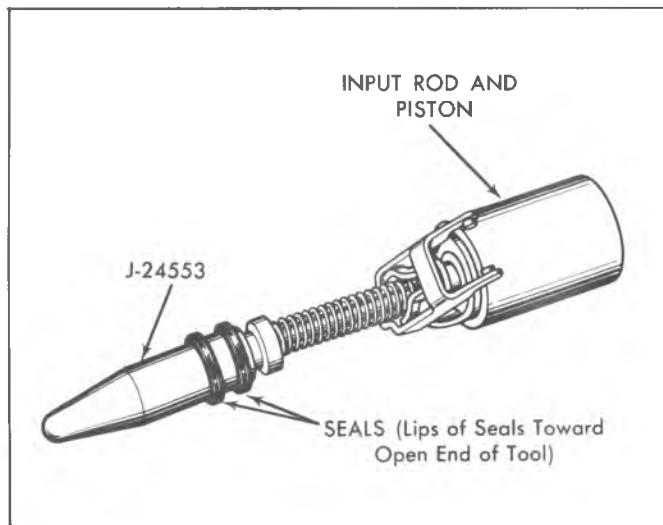

Fig. 5-4E--Installing Input Rod Seals
4. Lubricate the input rod end, **NEW** input rod seals and Seal Installer Tool J-24553 with clean power steering fluid. Slide the seals on the tool with the lip of the cups toward the open end of the tool (fig. 5-4E).